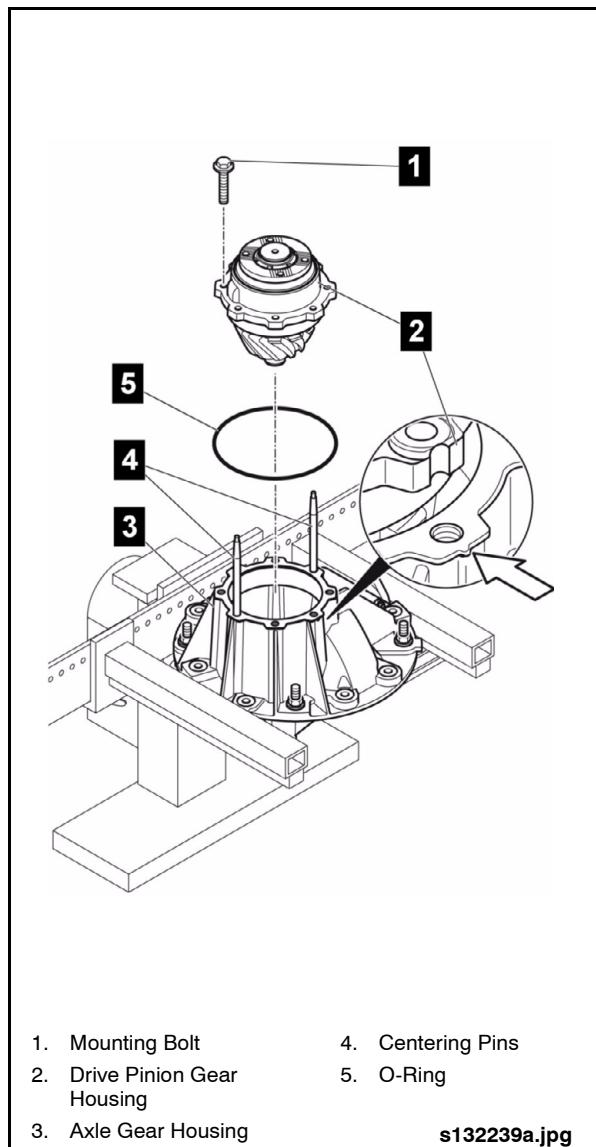

Fig. 2-82: Installing Drive Pinion Gear Housing
3. Carefully lower the pinion gear housing over the Centering Pins (Item 78 from Special Tools List), ensuring that marks on the drive pinion gear housing and axle gear housing are aligned. See "Fig. 2-82: Installing Drive Pinion Gear Housing" on page 66.